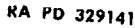

Figure 105 – Frame Assembly
(1) CHECK FRAME ALINEMENT (fig. 105). The extent of misalignment of the frame can be determined by taking measurements at the various points as indicated in figure 105. Measure the distance from A to D and from B to C. The distance between these two points should not vary more than $\frac{1}{8}$ inch. Measure the distance from C to F and D to E. The distance between these two points should not vary more than $\frac{1}{8}$ inch. Measure the distance from E to H and F to G. The distance between these two points should not vary more than $\frac{1}{8}$ inch. Measure the distance from H to J and G to K. The distance between these two points should not vary more than $\frac{1}{8}$ inch. If the frame is found to be out of alinement, in most cases it can be corrected by straightening or replacing the damaged frame members or sections.
(2) INSPECT FRAME FOR LOOSE RIVETS. Replace any rivets that are loose or missing. Replace the battery support bracket if bent.